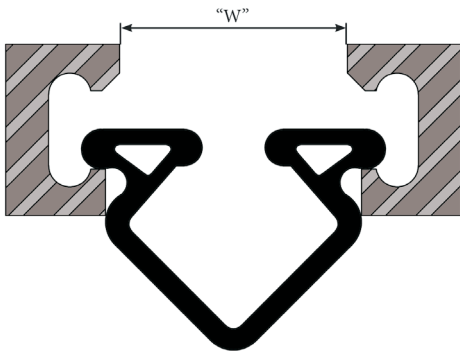

Figure 1
3. Collapse the strip seal into the joint opening until the bottom lug is aligned with the frame rail channel. (**See Figure 1**) the minimum opening (**Width**) for ease in installation is 2”.